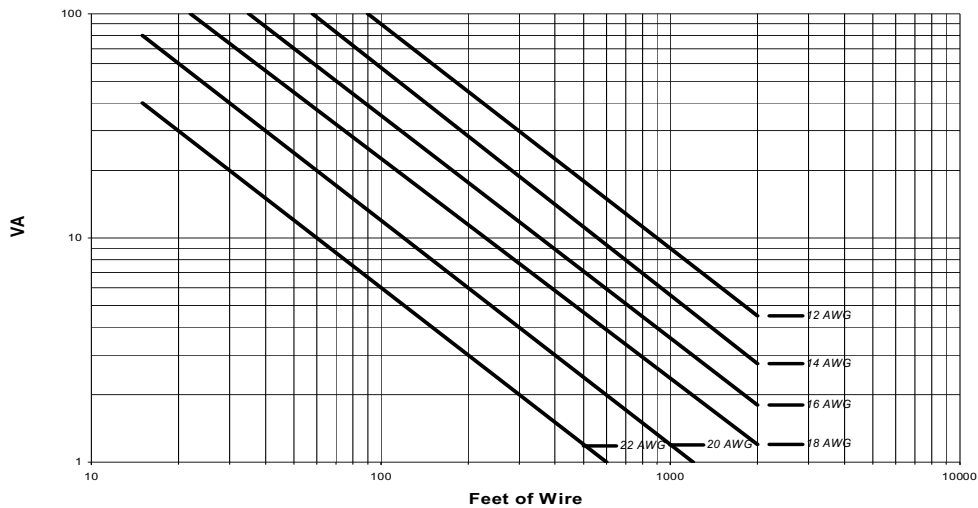

Fig. 7 Determining the appropriate wire size
2. Extend all red mounting clips to the unlock position as shown in figure 7.